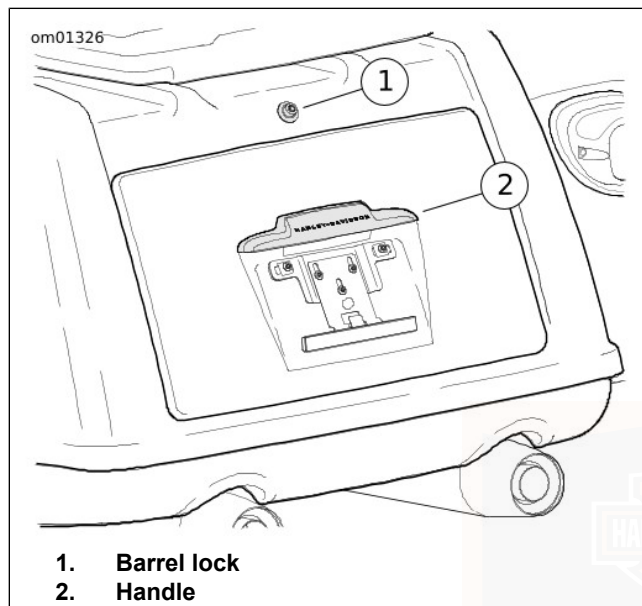

Figure 54. Trunk (typical)
2. See Figure 54. Push in the barrel lock to unlatch door. Pull handle to open trunk door.